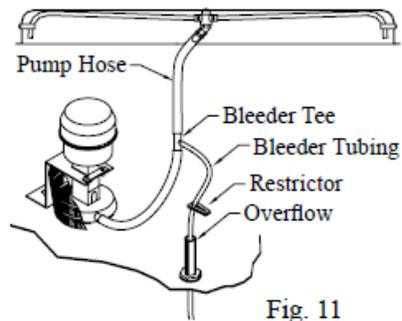

Fig. 11
- Install Bleeder Tee and Tubing.** Refer to figure 11. Cut the pump hose and insert the barbed ends of the bleeder tee into each cut end. Insert one end of the bleeder tubing onto the bleeder tee and run the other end out of the cooler through the overflow pipe. **Note:** A restrictor clamp is provided which, if desired, may be installed onto the bleeder tubing to restrict the amount of water being bleed off. The amount of water to bleed off depends on the quality of the water in your area. Start with 1-2 gal/hr and increase if needed.